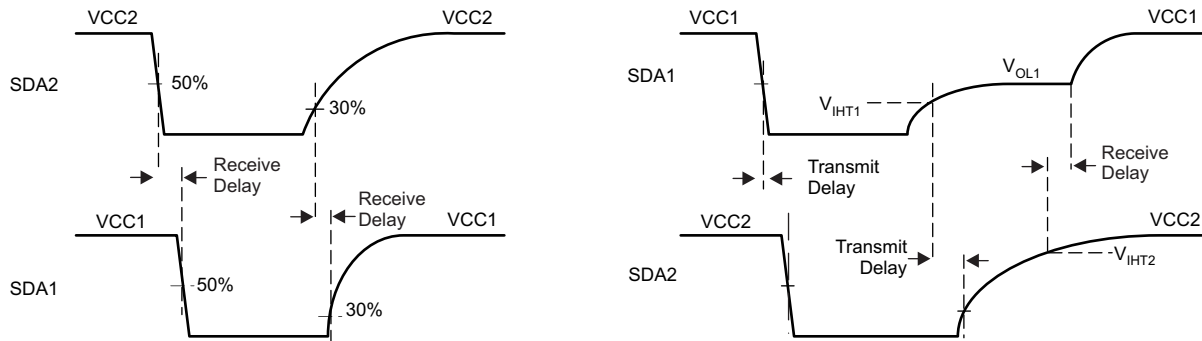

Figure 26. SDA Channel Timing in Receive and Transmit Directions
Figure 26 demonstrate the switching behavior of the I²C isolator, ISO1540-Q1, between a master node at SDA1 and a heavy loaded bus at SDA2.
8.4.1 Receive Direction (Left Diagram of Figure 26)
8.4.2 Transmit Direction (Right Diagram of Figure 26)